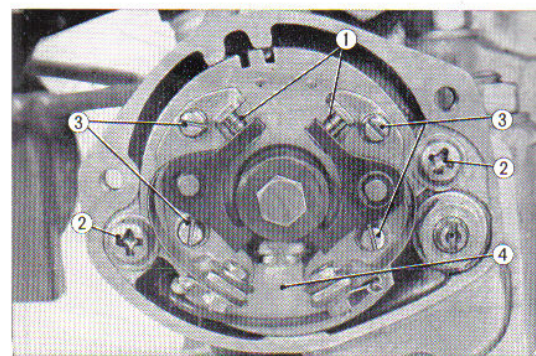

Fig. 6.7 Point clearance adjustment
- ① Index mark ② "LF" mark
③ A.C. generator rotor
d. Adjust the breaker gap opening by loosening the breaker locking screw (b) and make the adjustment with the screw driver and a thickness gauge. The standard gap clearance is 0.3 to 0.4 mm (0.012 to 0.016 in). Both the right and left sides should be adjusted to the same value. (Fig. 6.7)